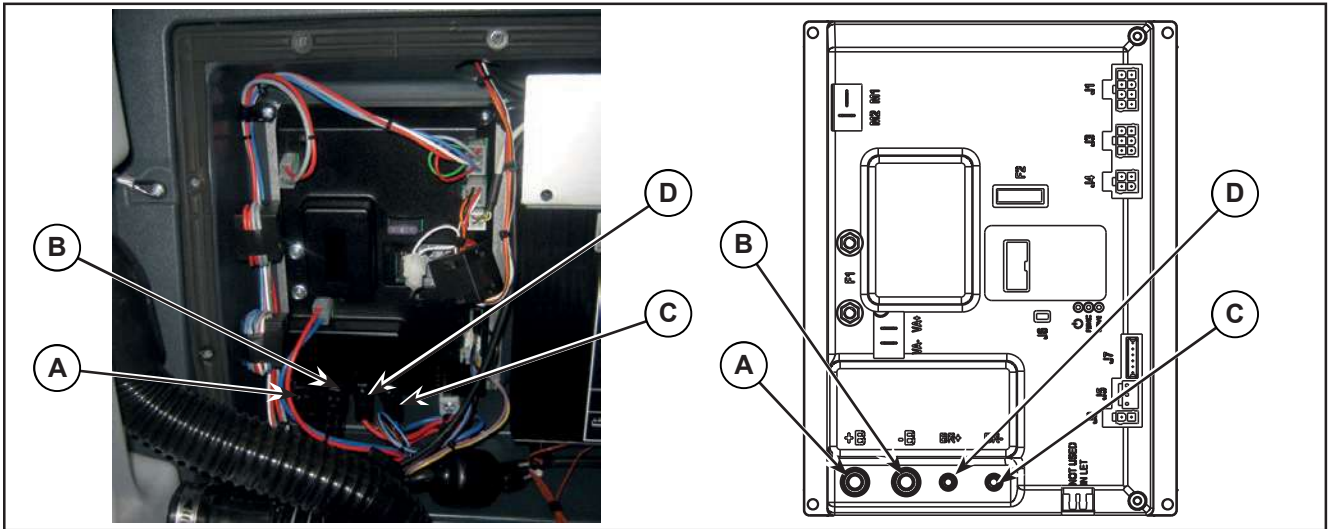

Figure 12:
4. Disconnect the following connections sequentially (Figure 12):
- (A) and (B) Board power supply connection (B+) and (B-).
- (C) and (D) Brush motor connection (BR+) and (BR-).